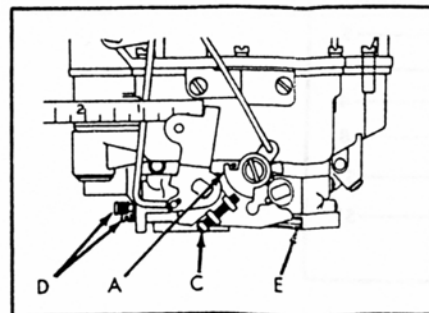

Figure 6
- a. **Adjustment "A".** (See figure 6.) Loosen clamp screw on choke lever. Insert feeler gage (see Adjustment Data Table, for correct size) between the lip of fast idle cam and the boss on the flange casting (at A, figure 6). With choke valve held tightly closed, take slack out of linkage and tighten clamp screw on choke lever.
- b. **Adjustment "B".** (See figure 6.) With choke valve held closed and fast idle adjusting screw (C), or fast idle adjusting tang, on high step of cam, rotate screw (C) or bend tang, until throttle valves are open the distance listed in Adjustment Data Table between throttle valves and carburetor bore, on side opposite idle adjusting screws.
XI. IDLE ADJUSTMENT. (See figure 6.)